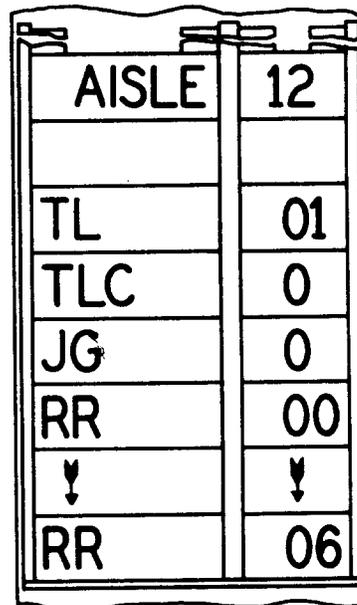

Fig. 41 - Line-up Designations on End Guards for Box-type Frames
2.67 *Frame designations* on end guards for box-type frames are not rubber-stamped. Printed cards are furnished for insertion in the card guides on the end guards. They shall be inserted so that, from top down, the order is the same as the frames are encountered in progressing down the frame aisle away from the end guards, except that where there are more than three consecutively numbered frames of the same type, whether or not they are located adjacently, the cards shall be placed so that the total span is indicated as shown for RR00 to 06 in Fig. 41.